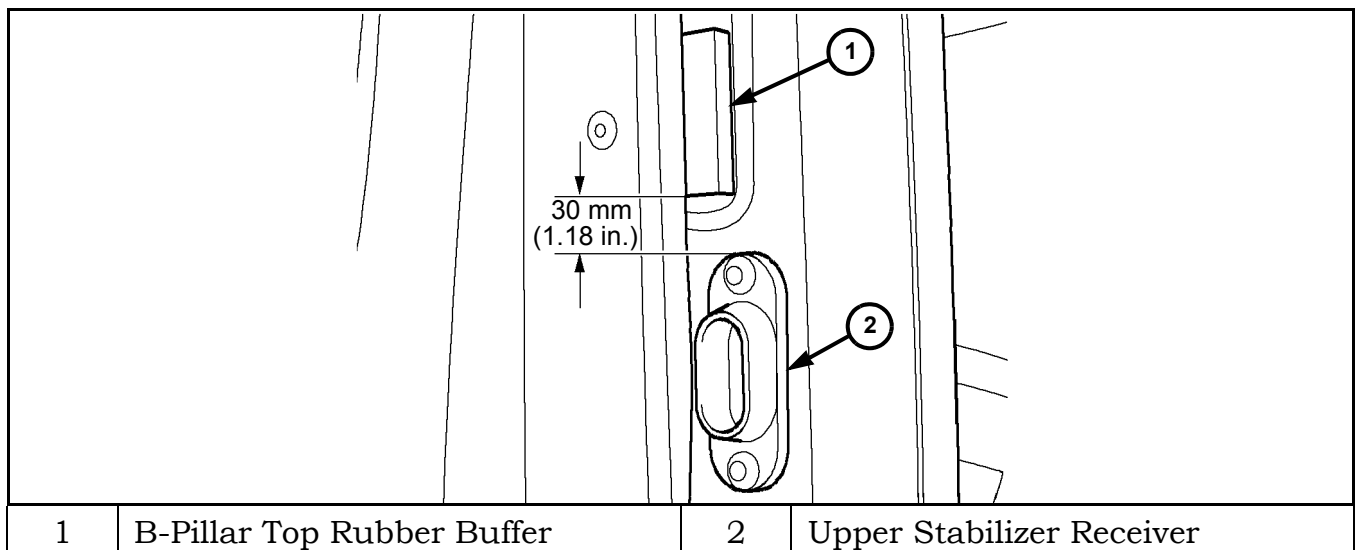

Figure 15 B-Pillar Top Rubber Buffer
26. Inspect B-pillar rubber buffers. Replace if broken or missing to avoid damage to B-pillar when sliding door is closed with a swing. Glue upper rubber buffer to B-pillar approximately 30 mm (1.18 in.) above upper stabilizer receiver (Figure 15).